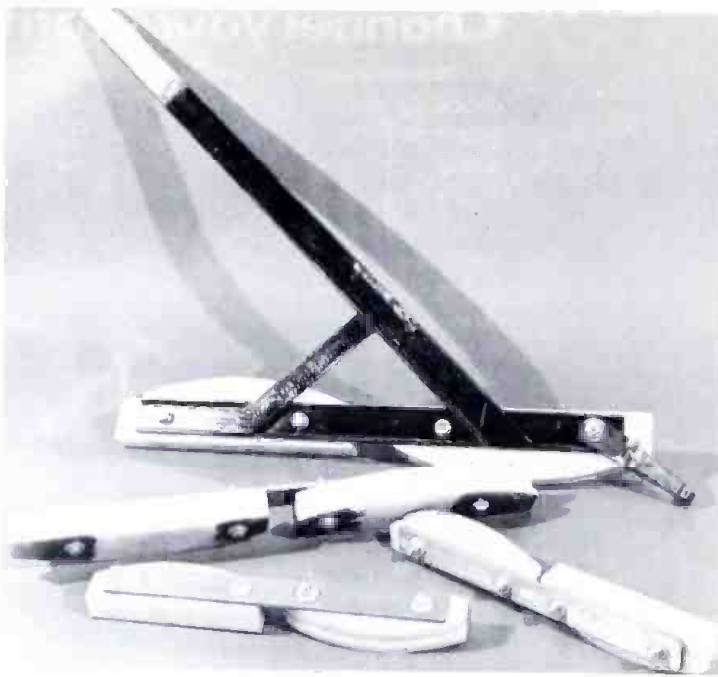

Fig. 3 Shown here are 1-inch, 3/4-inch, and 2 1/2-inch cable benders.
Fig. 3 Richard Henry (L), a newscaster, and Sheriff Henry Kalinowski at the news desk. Drapery at rear can be pulled aside to expose sofa when more than two guests are present. The light arrangement is limited by the ceiling height.